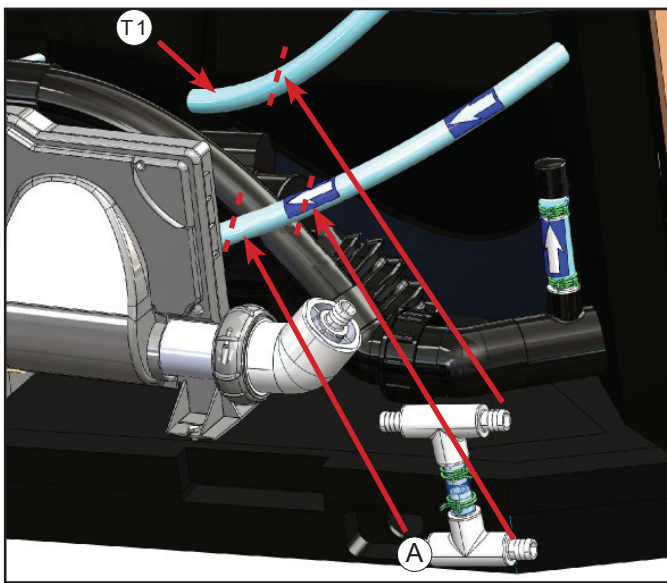

Figure 9.1
1. Locate Frog Bypass Assembly (A) that comes in kit.
2. Identify 3/4" clear vinyl hose that goes into spa frog labeled here as (T1) and 3/4" clear vinyl hose coming from spa frog with arrow stickers attached to it (Figure 9.1).
3. Align Frog Bypass Assembly (A) to both 3/4" clear vinyl hoses so that Frog Bypass Assembly (A) fits as shown in (Figure 9.1).
4. Mark locations that will be cut to install Frog Bypass Assembly (A) with a marker and cut all locations previously marked with pen (Figure 9.1).